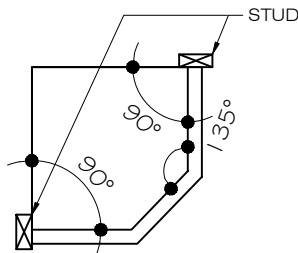

FIG.1
- Ensure that there is sufficient structural support behind the shower wall to hold the weight of the shower door. If there is insufficient support, then reinforce the shower walls with wooden studs prior to shower door installation. [SEE FIG.1]